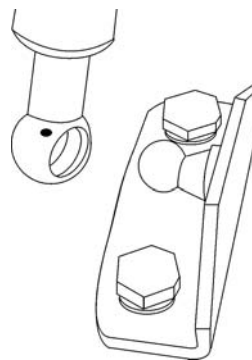

Figure 4-4.
6. Remove the door stop from the balls on each mounting bracket, top and bottom (Figure 4-4). Discard the damper inside the assembly (see assembly drawing 440-200-5 toward the end of the English manual).